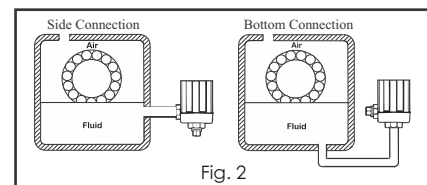

Fig. 2
5. Connect lower casting to bearing chamber either through the side connection or the bottom connection (Fig. 2). Use thread compound on threaded areas, except for supplied plug.